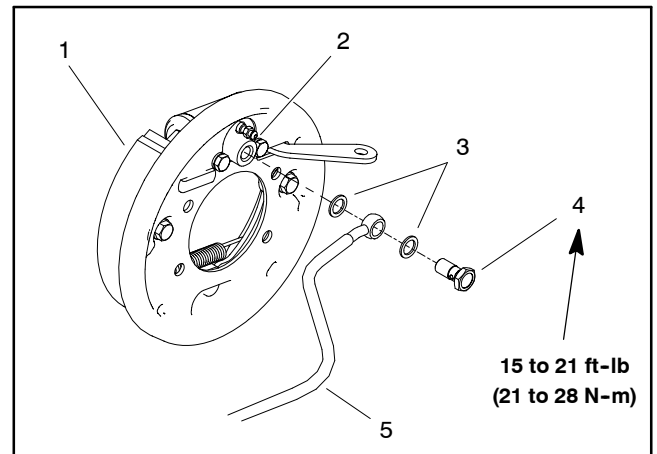

Figure 3
A. Secure brake assembly to the transaxle with four (4) socket head screws and lock nuts. Torque lock nuts from **26 to 30 ft-lb (34 to 41 N-m)**.
B. Position and secure hydraulic brake line to wheel cylinder (Fig. 3). Torque banjo bolt from **15 to 21 ft-lb (21 to 28 N-m)**.